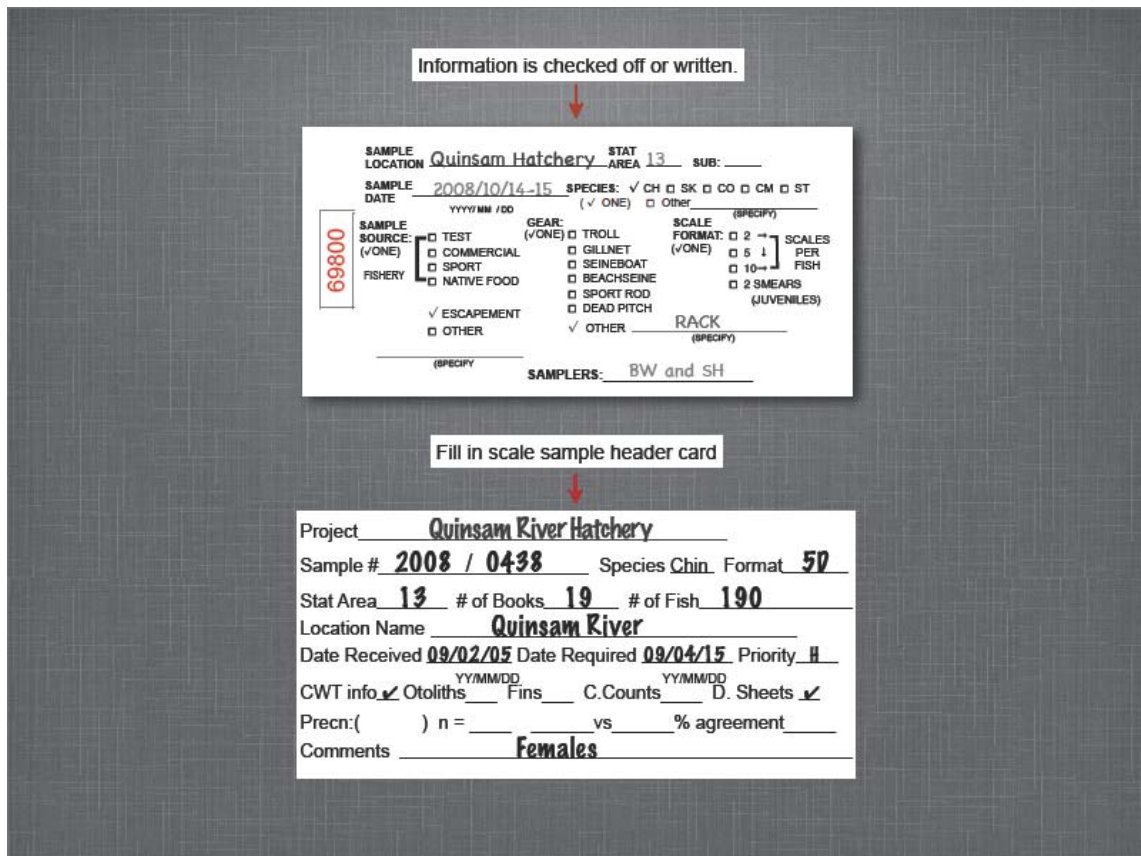

Fig. 2. Back of gummed scale card (top) and scale sample header card.
- Scale card (Fig. 2)
2. Separate the scale books into groups by species, area, sample source, and gear type for each project. This information is checked off or written on the back of the scale card/book (Fig. 2). If information is incomplete, contact the project coordinator for the information.
4. Complete a sample header card and attach it to each bundle (Fig. 2). Record the following information: project name, PADS sample number, location, species, scale format and number of books. Indicate if there are data sheets with the scale samples. Check off Code Wire Tag (CWT) if the data is available and circuli counts if requested by the client (Fig 2). Bundle the header card and scale cards together and wrap with an elastic band or bands depending on bundle size.